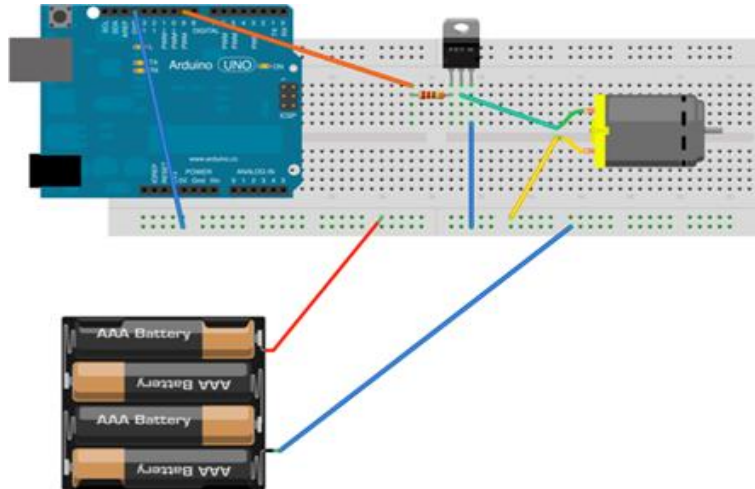

Figure 2: Wiring diagram of a *MOSFET Motor Switch*
Figure 2 shows the wiring diagram of a N-channel MOSFET with a motor and an Arduino microcontroller. Frequently, the computer is unable to supply enough power for a motor. In these cases, it is possible to power the motor via the *Vin* pin of the Arduino if it is powered by a wall outlet or an external power supply. Moreover, a Schottky diode can be used to prevent a return of current due to the inertia of the motor while stopping.
1. Set up the circuit like in Figure 2.